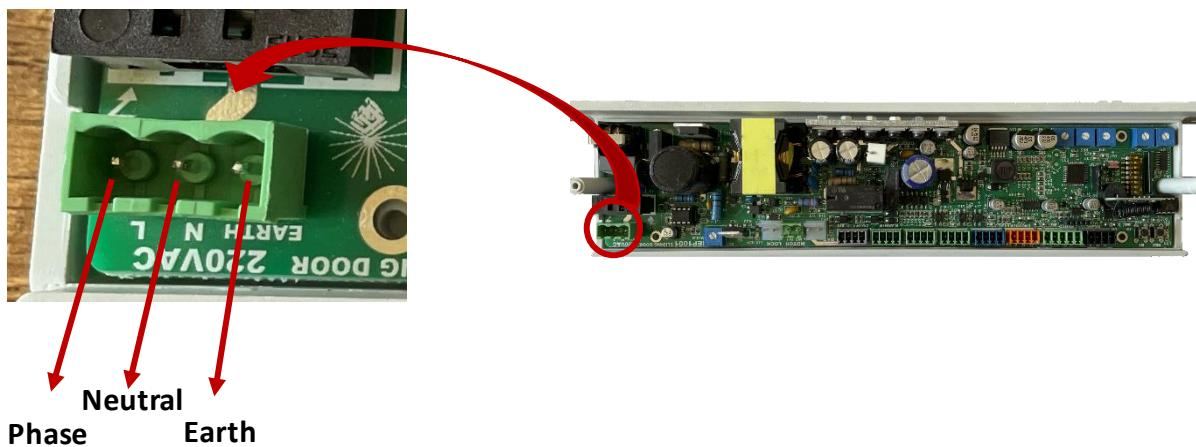

Figure 21: The position and close-up view of the power supply input on the board, as well as the input types, are shown in Figure 19.
20) AC220 Power Input: The socket where the AC220 power supply input is connected on the board. The input types are shown in Figure 21.